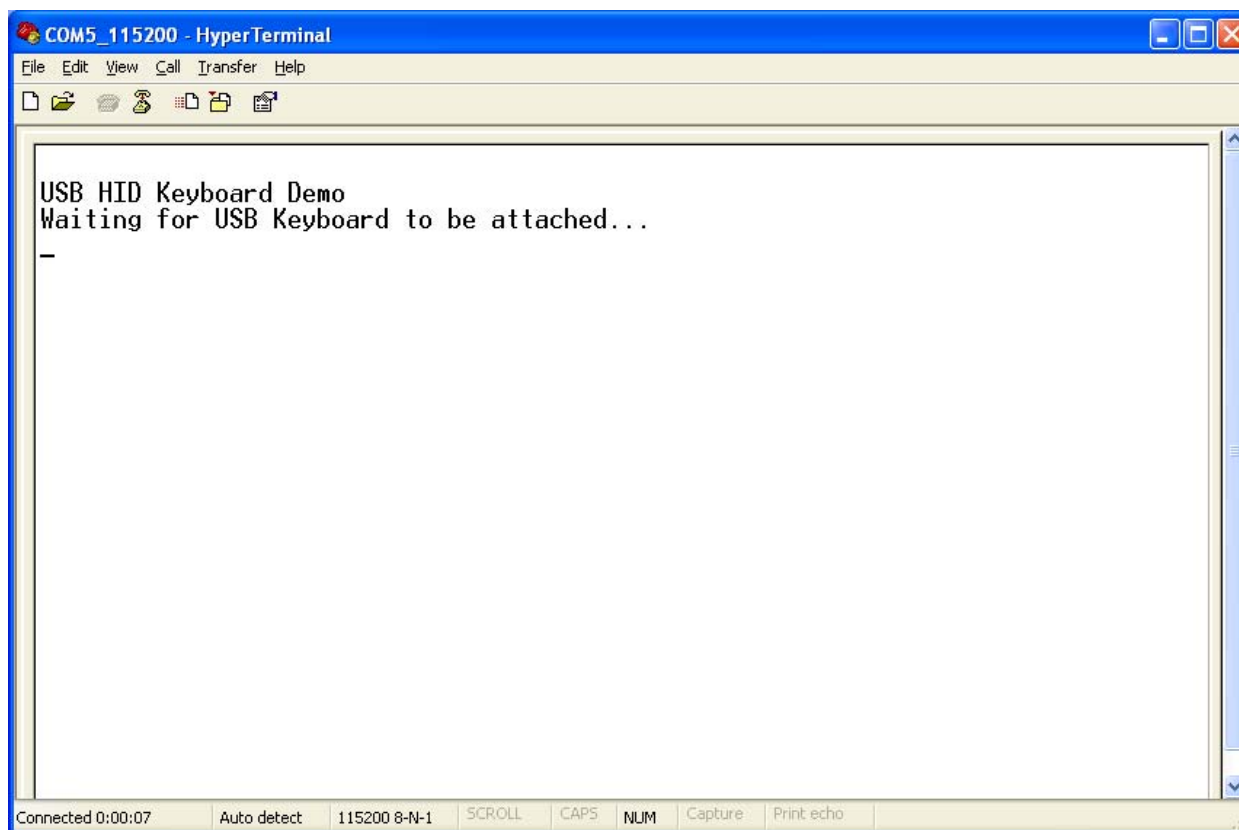

Figure B-6. The USB Host is waiting the keyboard attachment event
2. Run the demo. Firstly, the USB Host waits the device attachment event. The HyperTerminal shows a message as in Figure B-6: